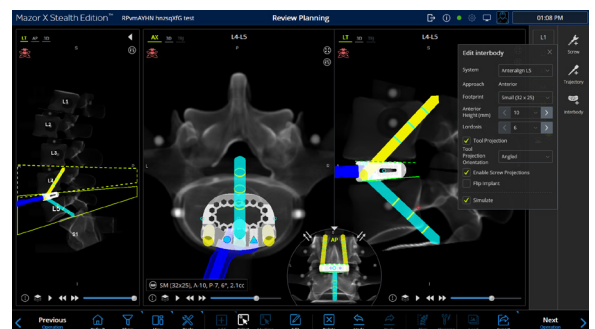

Figure 25
- There is also a simulate feature that can be toggled on and off to estimate correction and height restoration (**Figure 25**).